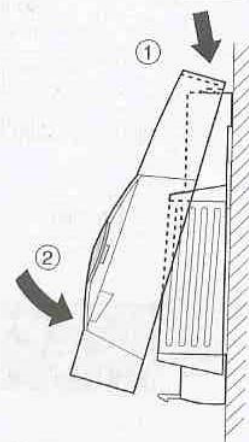

Fig. 14: Placing housing cover in position
- ▶ Place the housing cover in position above and snap it down (see Fig. 14).